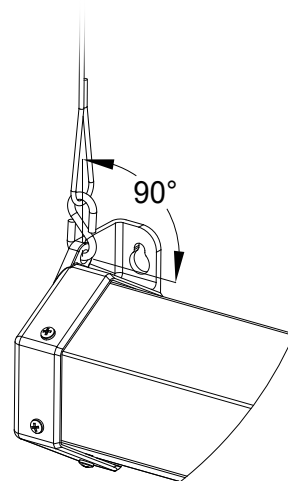

Figure 4
3. Must be perpendicular to the mounting See Figure 4.